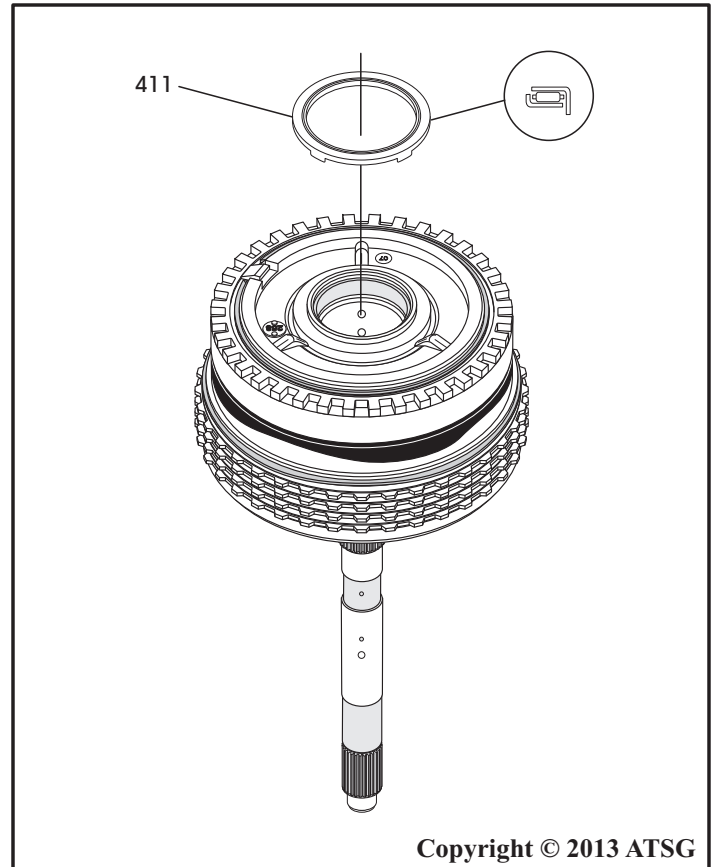

Figure 162
56. Install the number 11 thrust bearing in direction shown in Figure 162 and retain with a small amount of Trans-Jel®.